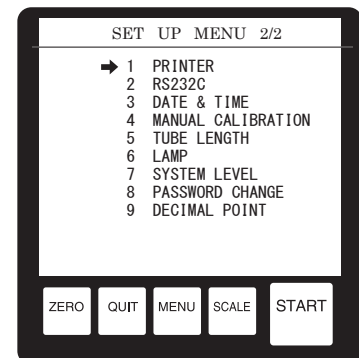

Fig.9-2
(2) Changing the number of decimal places displayed
a) On the measurement display screen or ZERO SET END screen, press the MENU key twice (Fig.9-2).